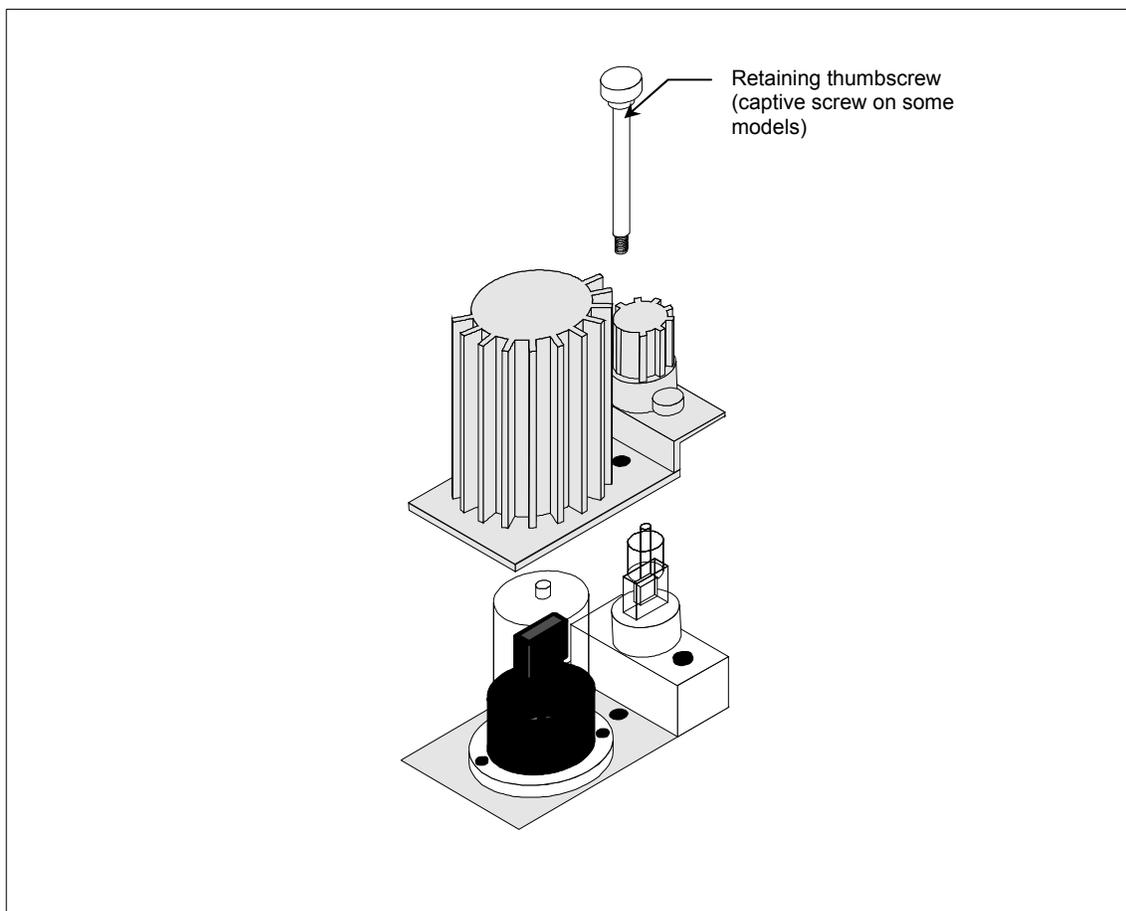

Figure 4.10 Removing the Lamp Cover
7. Now remove the lamp cover by loosening and removing the knurled black knob of the retaining thumbscrew holding the cover to the lamp tray. Carefully lift off the lamp cover (Figure 4.10).